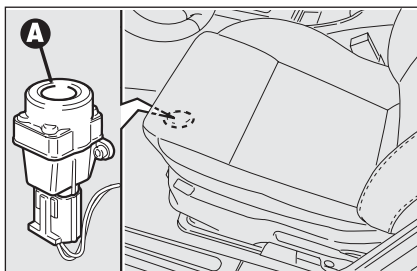

fig. 61
To reset the fuel cut-off switch, press button **A-fig. 61**.
- ☐ press button **A-fig. 61** to reset the fuel cut-off switch;